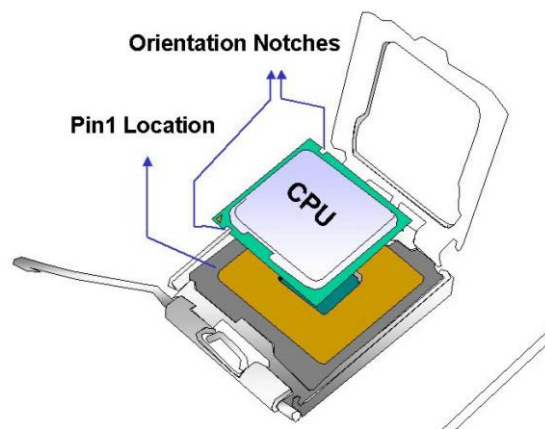

Figure 4-4: Insert the Socket LGA775 CPU
- Step 7: Insert the CPU.** Gently insert the CPU into the socket. If the CPU pins are properly aligned, the CPU should slide into the CPU socket smoothly. See **Figure 4-4.**